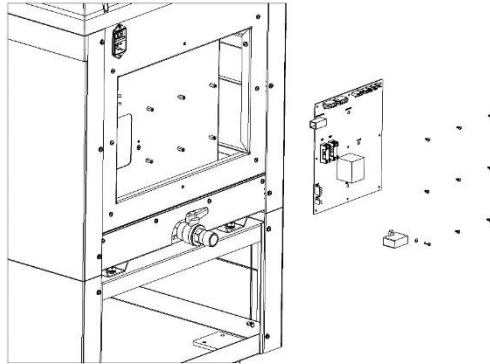

Figure 14 – Remove the Screws and Remove PCB
- d. Remove the nine screws that hold the PCB in place (See Figure 14).